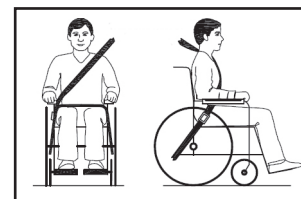

Figure 3
- The upper belt must fully support the user as shown in Figure 3.